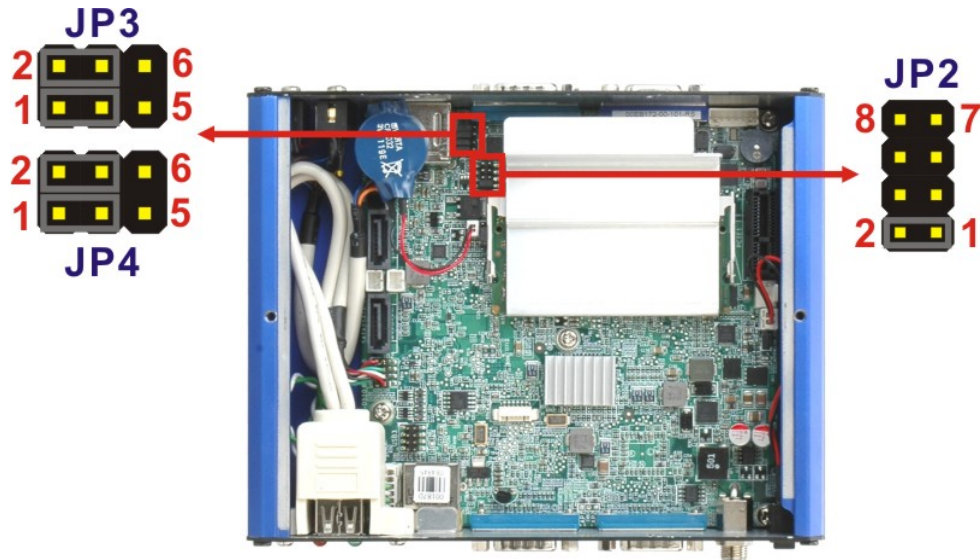

Figure 3-8: COM1 Mode Select Jumper Locations
- Jumper Location:** See Figure 3-8
The COM1 Mode Select jumper locations are shown in **Figure 3-8**.